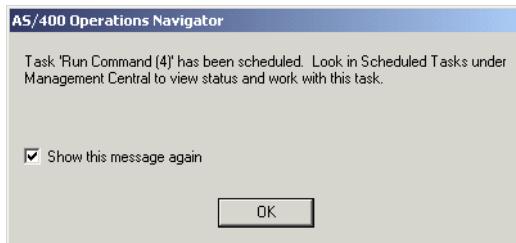

Figure 8-56 Run Command confirmation display
5. A message is then sent to confirm that the move has been scheduled in Management Central. See Figure 8-56.